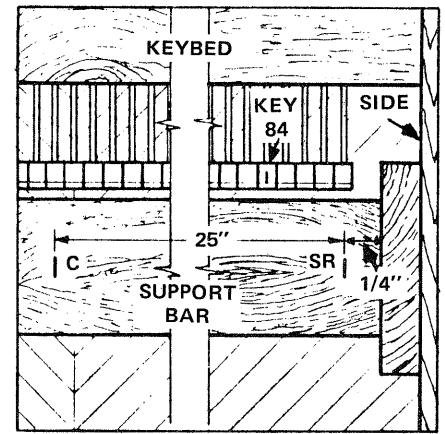

FIGURE 1-29 Measure out 25" and mark the bar.
From the mark labeled "C" on the support Bar, measure out 25" toward the RIGHT side of the piano (see FIGURE 1-29) and determine the following:
- A. If the measurement ends 1/4" or more to the LEFT of the piano's side, mark the end of the measurement on the Support Bar, label the mark "SR" as shown in FIGURE 1-29, then proceed to the next Step.